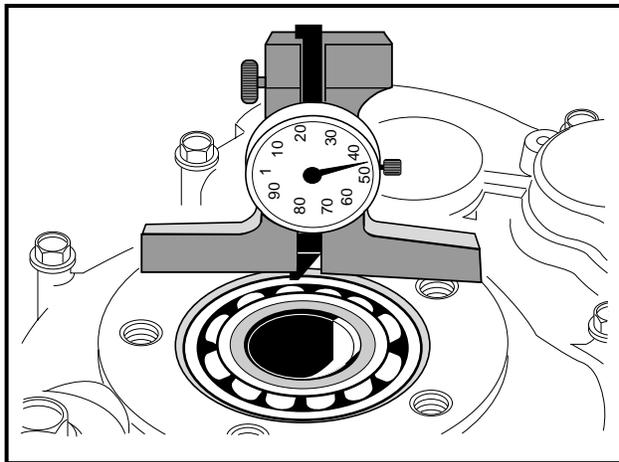

Figure 16-21 Depth Gauge
- Using a depth gauge, measure the distance from the gasket seal surface of the axle tube (gasket must be removed) to the outer race of the bearing (14) on the differential case (33) (**Figure 16-3, Page 16-3**). **See also Figure 16-21.**